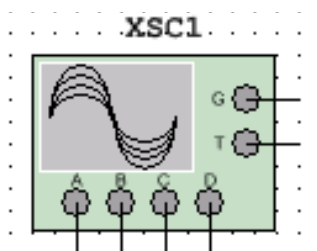

Figure 13. Four-channel oscilloscope.
- Select a four-channel oscilloscope (Figure 13) from the Instrument column and add it to the circuit.